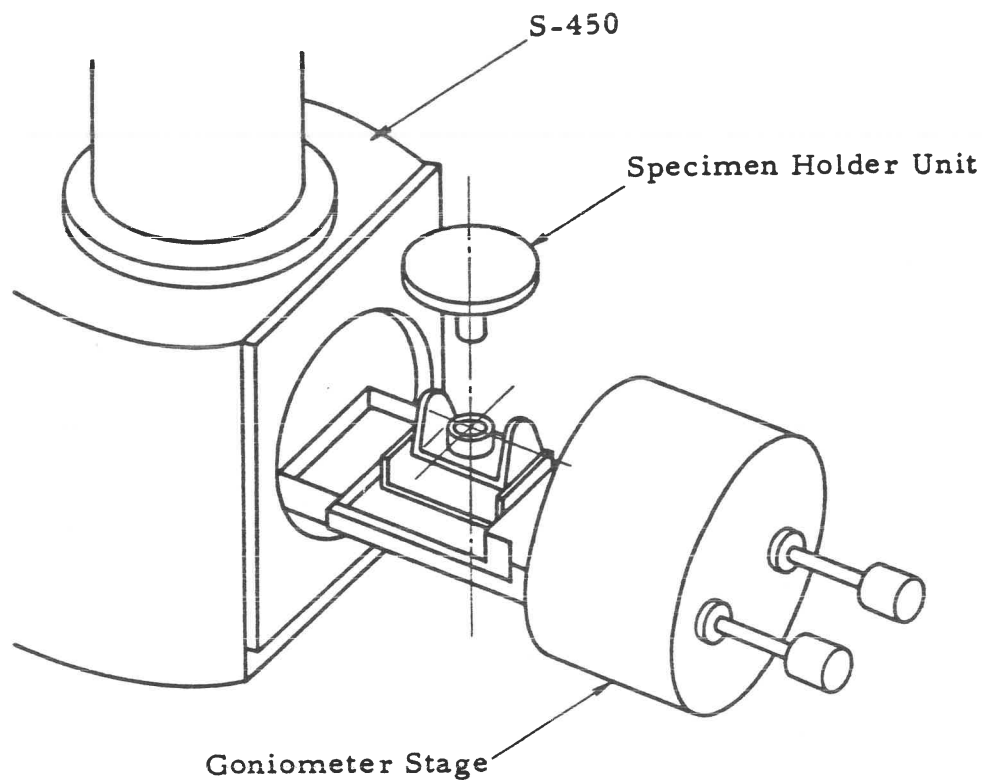

Fig. 2-1 Specimen Replacement
- (1) Depress the HV (kV) **OFF** pushbutton switch on the display unit.
- (2) Set three control knobs of the specimen stage to $X = 20$, $Y = 20$, and $T = 0^\circ$, and the Z-control knob to **EX**.
- (3) Depress **AIR** switch on the evacuating system control panel.
- (4) About 30 seconds later, pull out the specimen stage.
- (5) Remove the specimen holder.
- (6) Remove the specimen stub for the previous observation from the specimen holder (Fig. 2-1).